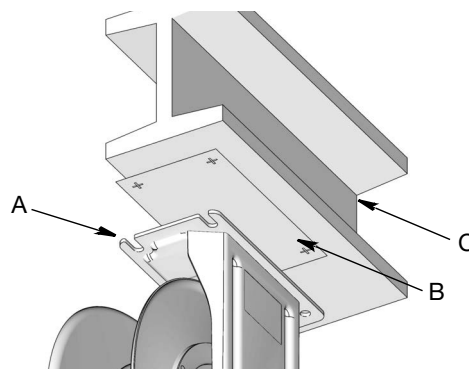

FIG. 7
2. Use the mounting template (FIG. 7 - B) to lay out the position of the mounting holes before you drill
3. Drill mounting holes in the I-Beam (C) (FIG. 7).